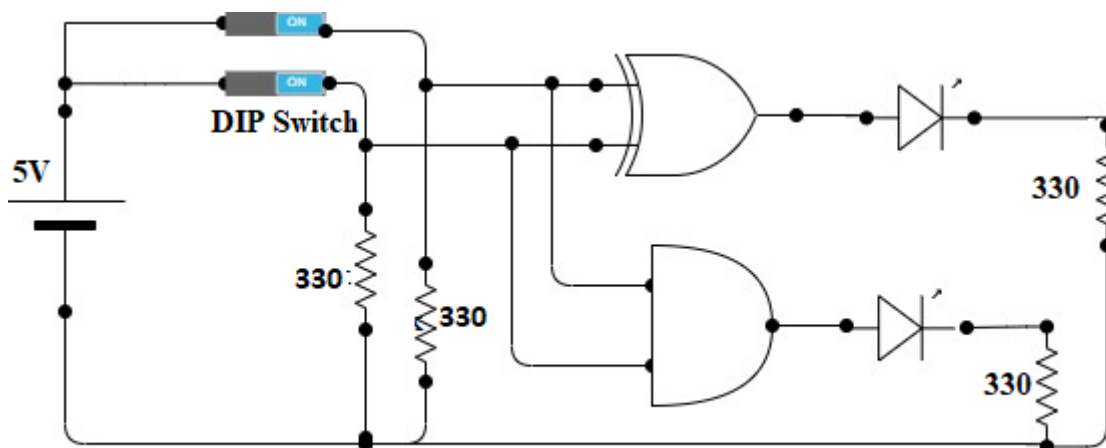

Figure 3.3 – Half Adder Circuit
- Make the connections according to Figure 3.3 and use **DIP Switch (8-pin)** to give inputs.
- The outputs of circuit shown in Figure 3.3 should satisfy the truth table shown in